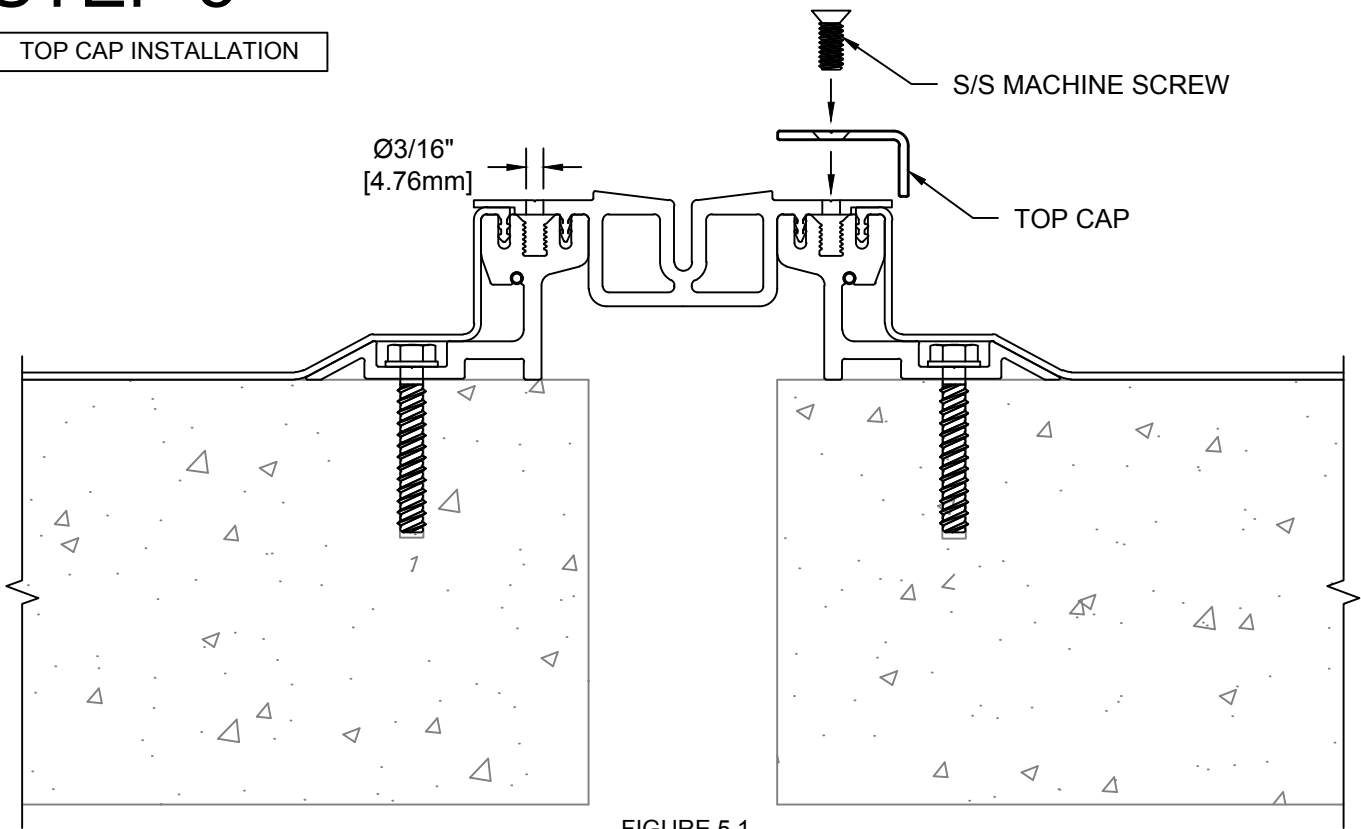

FIGURE 5.1
- 5.3) Temporarily remove the Top Cap from the assembly and create  $\text{Ø}\frac{3}{16}$ " [ $\text{Ø}4.8\text{mm}$ ] clearance holes for the CS Supplied Stainless Steel Machine Screws. (See Figure 5.1)
- 5.4) Reposition the Top Cap on the system and fasten with the CS Supplied Machine Screws. Before tightening screws completely apply a silicone caulk (by others) between the head of the CS Supplied Machine Screws and the countersunk holes in the Top Caps. Be sure to keep the supplied Machine Screws as straight as possible when installing. Failure to do so could result in cross-threading, which will impair the system. (See Figure 5.1)